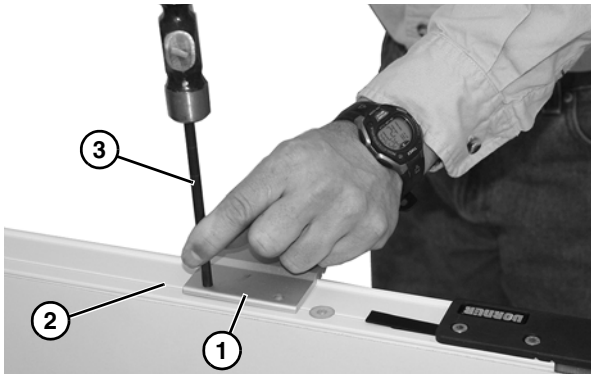

Figure 20
1. Locate and hold bracket (**Figure 20, item 1**) to side rail. Hole should line up with notch (**Figure 20, item 2**) in side rail. Mark the hole locations with a center punch (**Figure 20, item 3**) and remove the bracket.